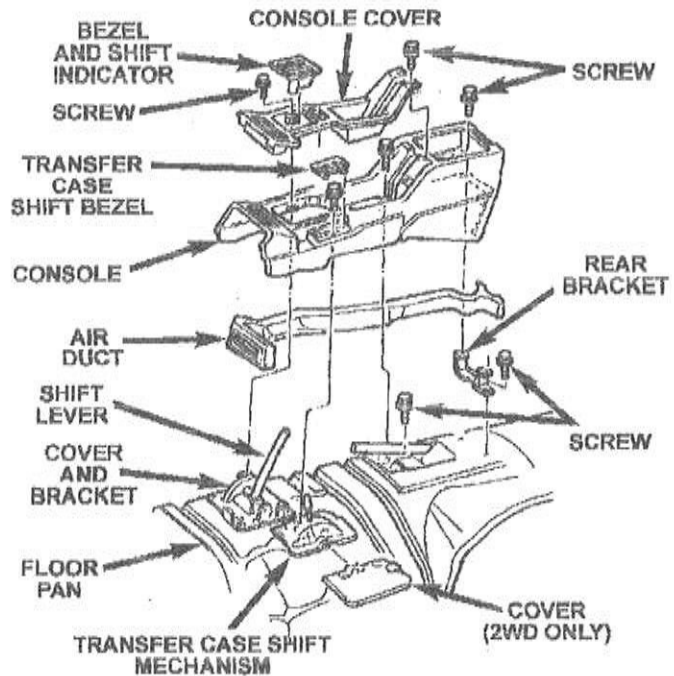

Figure 9
3. Pry up the transmission shift indicator bezel with a trim stick (Figure 9).
5. Pry up the transfer case shift indicator bezel with a trim stick (if equipped) (Figure 9).
8. **For vehicles with a full console:** Remove the console cover attaching screws and then remove the console cover (Figure 9).
9. Remove the console attaching screws and then remove the console (Figure 9).
10. Remove the console air duct (if equipped) (Figure 9).
45. Install the console air duct and then install the console and secure it with the attaching screws (Figure 9).
46. Install the console cover (if equipped) and secure it with the attaching screws (Figure 9) and then install the power mirror switch (if equipped).
47. Install the lamp socket into the transfer case shift bezel and then install the bezel into the console (if equipped) (Figure 9).
48. Install the lamp socket into the transmission shift indicator bezel and then install the bezel into the console (Figure 9).